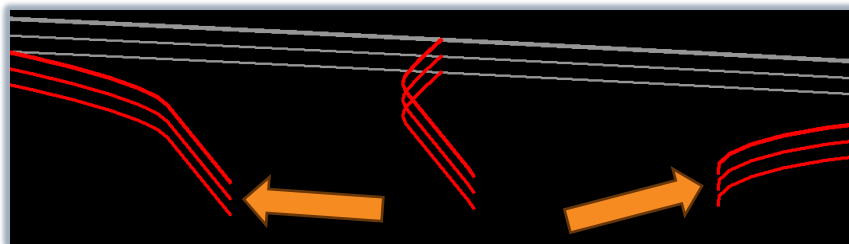
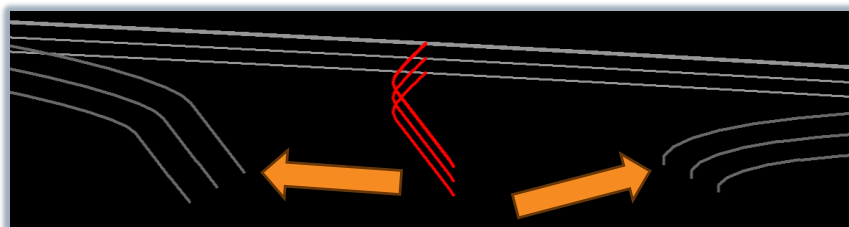

Figure 5 – Vertical 3D model breaklines along surface template perimeter
Figure 6 – 3D model breaklines from linear template around curb return
- d. Since surface templates create vertical faces, manually offset the 3D model breaklines beneath the top surface to accurately represent the design intent. No two lines should be sharing the exact same horizontal space. If modeling pavement structure around a curb return, linear templates can also be used to communicate proper design intent. See Figure 5 and Figure 6.